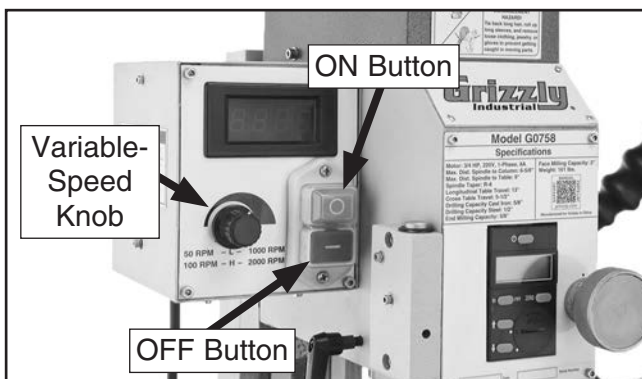

Figure 16. Location of mill/drill controls (front).
2. Press OFF button (see **Figure 16**). This will help prevent unexpected startup when machine is connected to power.